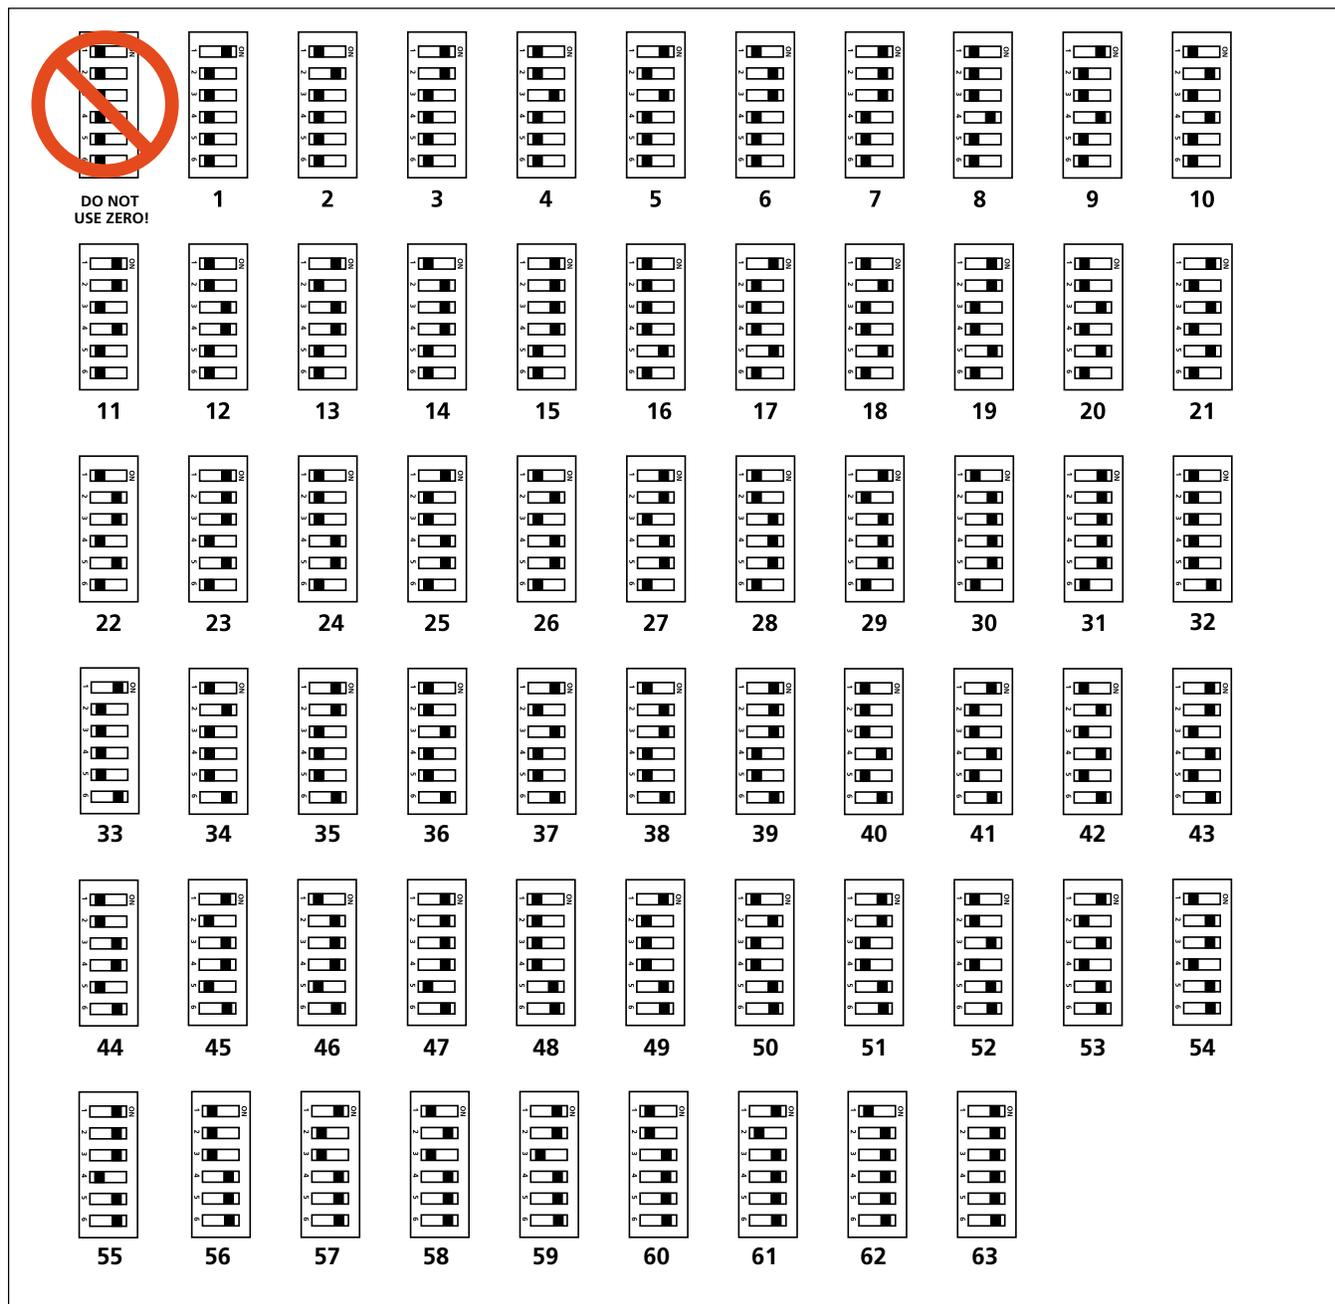

Figure 2: Address selection switches
1. Each Modbus device on a communication string must have a unique address. Before connecting the meter to the RS-485 communication wires, choose an address that is not in use, and set the switches as shown in figure 2, page 5. If the address conflicts with another device, neither device will communicate.